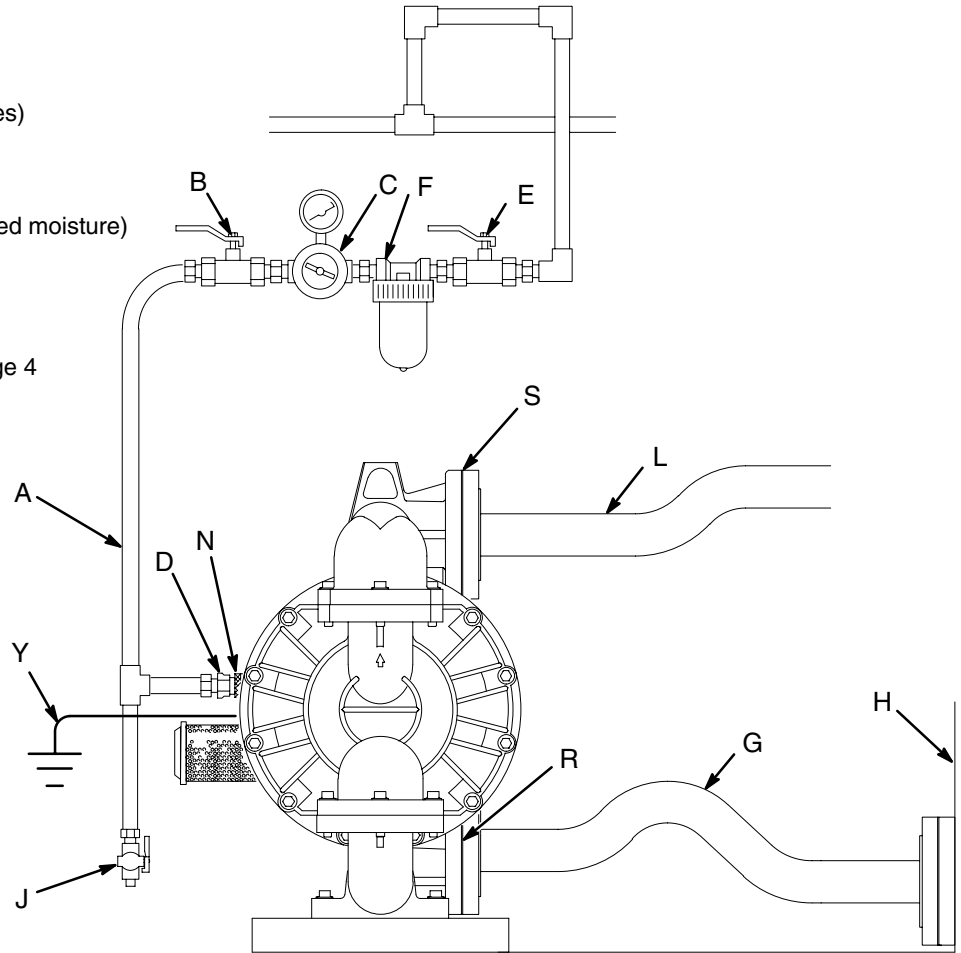

Fig. 2
- The Typical Installation shown in Fig. 2 is only a guide for selecting and installing system components. Contact your Graco distributor for assistance in planning a system to suit your needs.